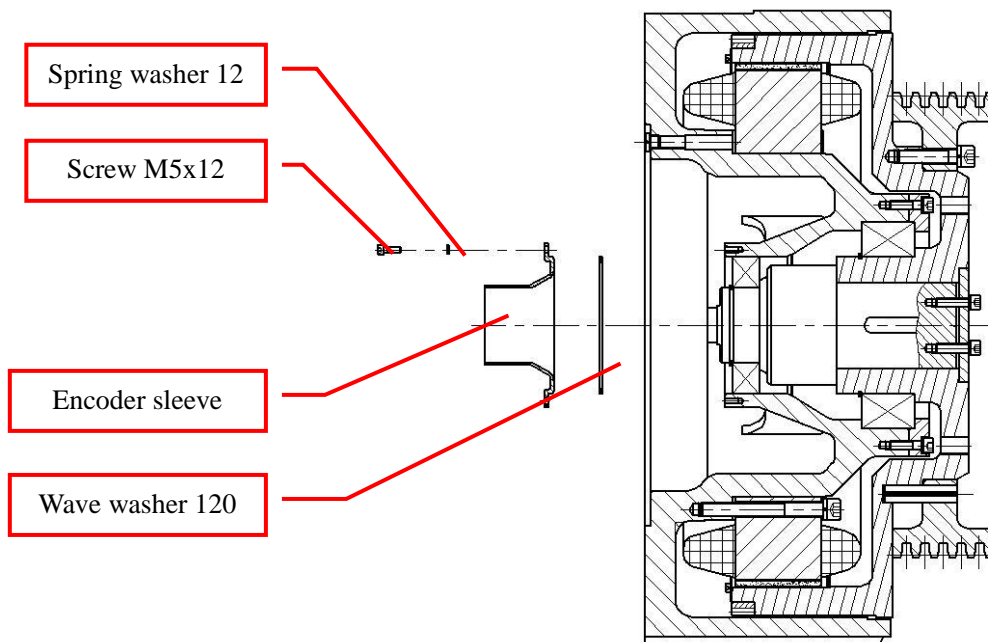

Figure 43: Remove encoder sleeve and wave washer
2. Screw out the screws M5x12 and spring washers 5 with hex wrench (4mm), then remove the encoder sleeve and wave washer 120. See Figure 43.